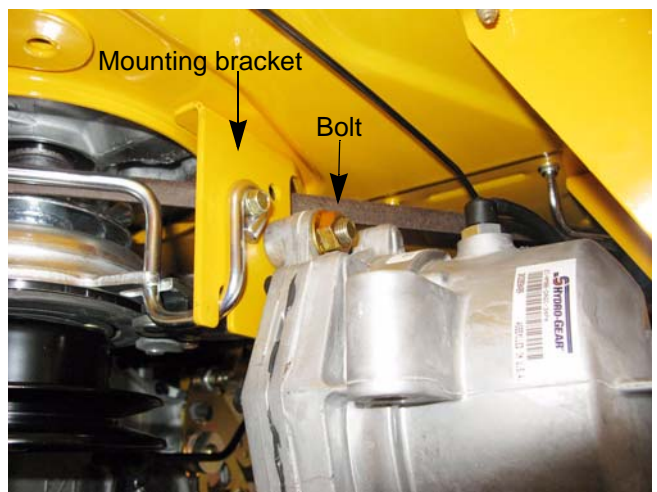

Figure 4.29
10. Remove the bolt holding the rear of the transmission to the rear transmission mounting bracket using a 5/8" wrench and an 11/16" wrench. See Figure 4.29.